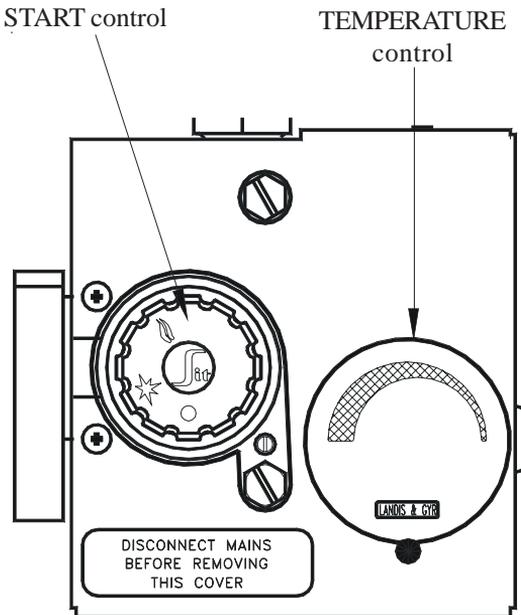

Fig. 1
- 1.5 Identify the positions of the '**START**' control ( refer to Fig. 1), and the air heater '**IGNITION**' button.